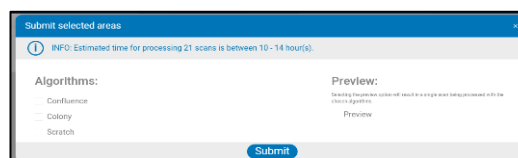

fig. 29. Select the type of analysis you would like to perform on the created areas.
- Analyze the areas by clicking the “Process areas” button (fig. 28c). You are led to the *Submit selected areas* page (fig. 29) where you can select the type of analysis you would like to perform. Subsequently click the “submit” button to analyze the areas. All scans that are added to the experiment after creating the new areas will be processed. In case you only want to analyze the timepoint in which the areas are drawn, tick the preview checkbox.